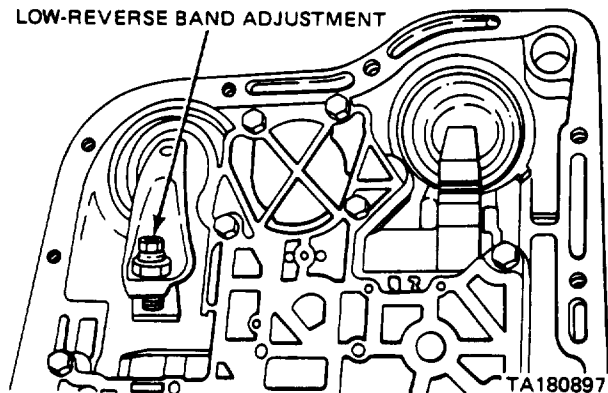

Figure 4-27. Low-Reverse Band Adjustment Screw.
(1) Raise the vehicle, drain the transmission fluid, and remove the oil pan.
(2) Loosen the adjusting screw locknut and back off the nut approximately five turns (figure 4-27). Inspect the adjusting screw for free turning in the lever,
(3) Using a torque wrench with adapter, tighten the band adjusting screw to 72 in-lbs.
(4) Back off the adjusting screw two turns. Hold the adjusting screw in this position and tighten the locknut to 30 ft-lbs.
(5) Reinstall the oil pan using a new gasket. Tighten the oil pan bolt to 150 in-lbs.
(6) Fill the transmission with "DEXRON II" type automatic transmission fluid.